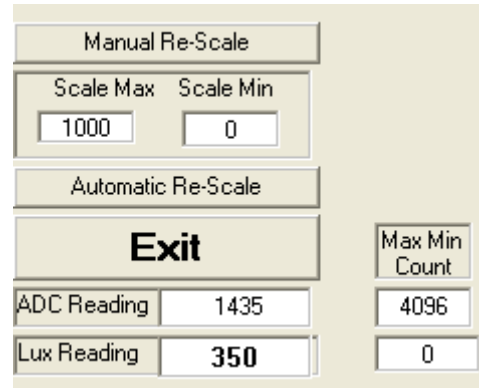

FIGURE 26.
- The value in the “ADC Reading” and/or “Lux Reading” fields are the appropriate output coming out of the sensor according to which mode is engaged (Figure 26).